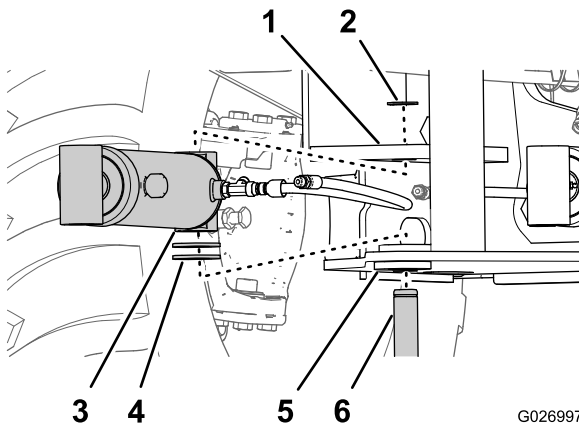

Figure 14
- Remove the cylinder and align the washer(s) that you determined in step 3 on top of the bushing in the support frame (Figure 14).
- Align the mounting fitting at the fixed end of the pivot cylinder between the bushing/washers and the mounting lug (Figure 14).
- Align the holes in the mounting lug, mounting fitting, washer(s), and the bushing (Figure 14).
- Secure the cylinder to the support frame with a pin (1-1/4 x 7-5/8 inch) that you prepared in step 1 and install a nap ring (1-1/8 inch) into the other groove in the pin (Figure 14).